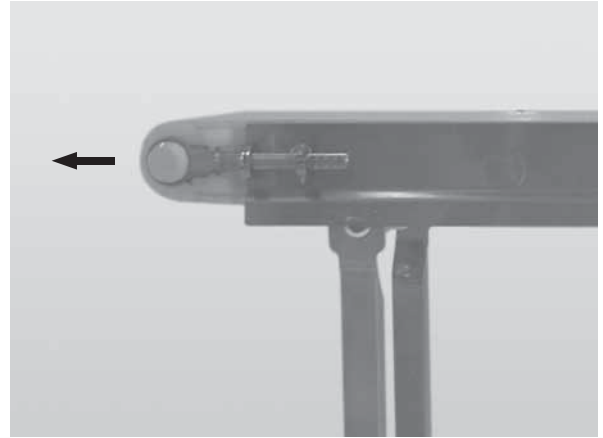

Figure 60
3. Continue extending the tension end until the belt is sufficiently tight (Figure 60).